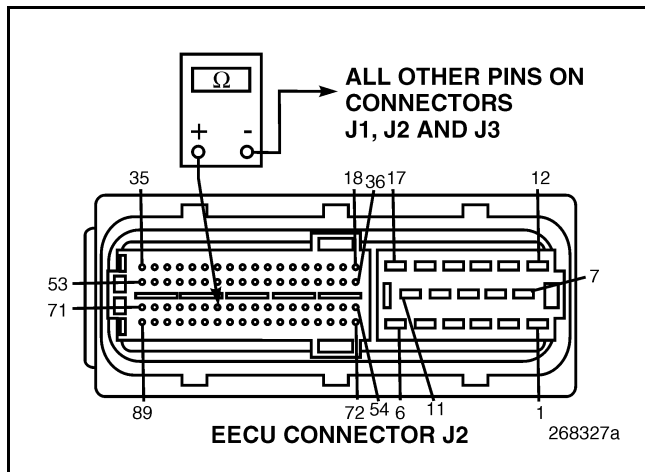

Figure 312
4. Check for continuity between EECU harness connector J2 pin 65 and all other pins on EECU connectors J1, J2, and J3 (see Figure 312).